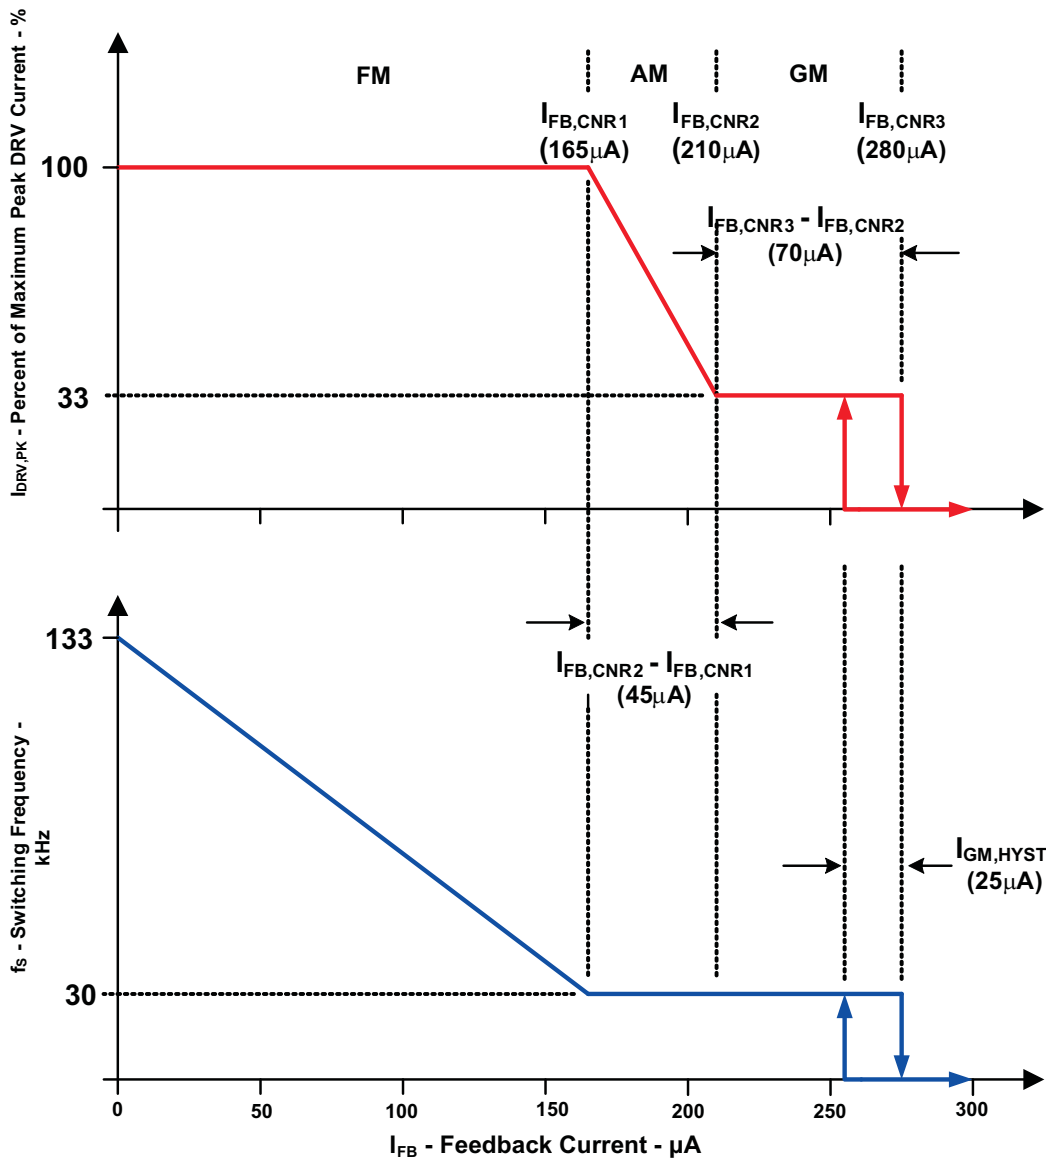

Figure 28. Control Diagram with Operating Modes
Under normal operating conditions, the FB current commands the operating mode of the UCC28610, as shown in Figure 27 and Figure 28. The FB current commands the UCC28610 to operate the converter in one of three modes: Frequency Modulation (FM) mode, Amplitude Modulation (AM) mode, and Green Mode (GM).
The converter operates in AM mode at moderate power levels (2.5% to 22% of the peak regulated power). The FB current regulates the output voltage by modulating the amplitude of the peak HVMOSFET current from 33% to 100% of the maximum programmed value while the switching frequency is fixed at approximately 30 kHz. The UCC28610 modulates the voltage on the CL pin from 3 V to 1 V to vary the commanded peak current, as shown in Figure 27 and Figure 28.